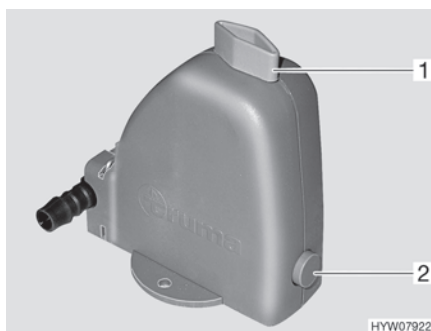

Fig. 117 Safety/drainage valve
The heater is equipped with a safety/drainage valve (Fig. 117). The safety/drainage valve prevents water for the production of hot water from freezing, when there is frost and the heater is not switched on.
- Close the safety/drainage valve. Turn the knob (Fig. 117,1) perpendicular to the safety/drainage valve and push the push button (Fig. 117,2) in.
- Open the safety/drainage valve. To do this turn the knob (Fig. 117,1) parallel to the safety/drainage valve. The push button (Fig. 117,2) jumps out. The domestic water container is emptied to the outside through the safety/drainage valve.